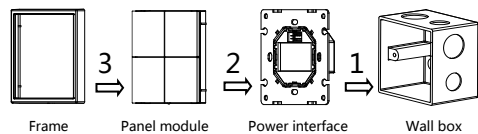

Figure 5. Installation
**Installation - See Figure 5**
| Installation                                | Wall box (See Figure 5)      |